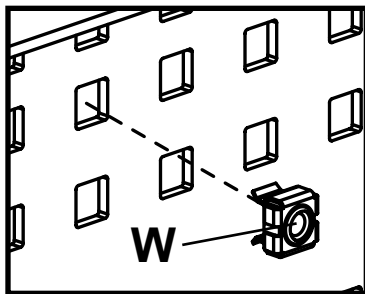

fig 5.1
- 5-1** Align wall mount assembly (G) with interface plates (A) to determine location of cage nuts (W) used to secure wall mount assembly (G) to interface plates. Install cage nuts from rear side of interface plates (A) as shown in figure 5.1.